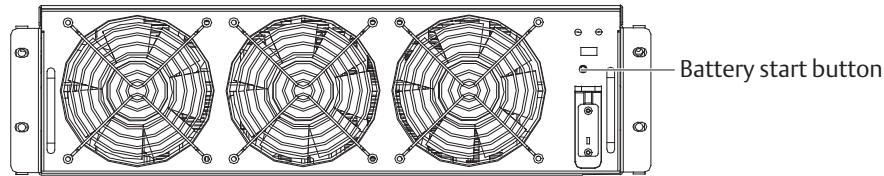

Figure 5-2 Location of battery start button
2. Press the battery start button (see Figure 5-2) on the front panel of any power module.